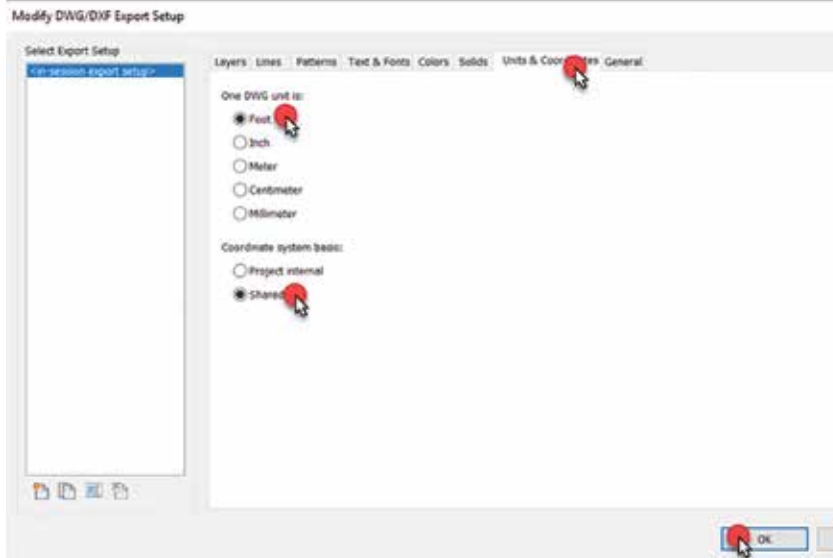

Figure 9
18. Select the "Units & Coordinates" tab and change the defaults to "foot" and "shared," then click "ok" (Figure 9).